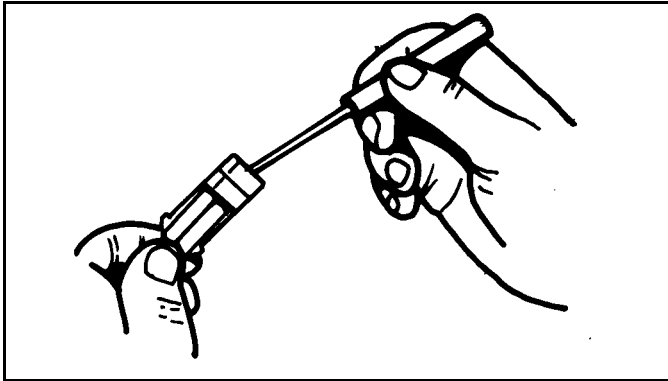

Figure 2-9
3. Use Terminal Removal Tool (#96102499) to remove contact from connector body. (See Figure 2-9)